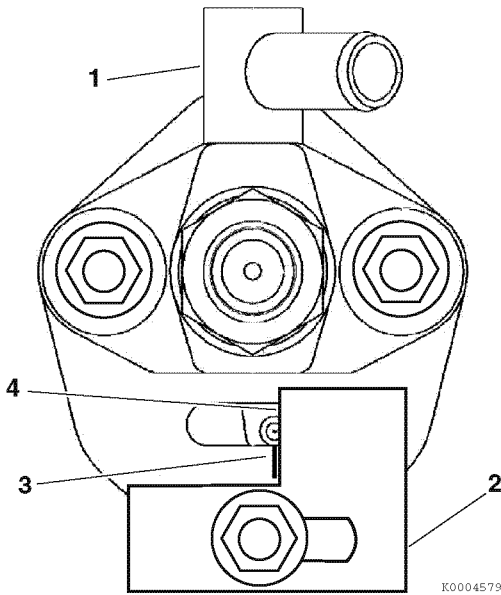

Figure 7-21
2. Install the fuel adjustment jig (2, **Figure 7-21**), YANMAR P/N 114771-92310, in the fuel injection pump inspection window. Using the inspection window cover plate nut, fasten the fuel adjustment jig aligning the upper left edge of the jig (4, **Figure 7-21**) to the alignment mark scribed on the face of the fuel injection pump (1, **Figure 7-21**) base plate (3, **Figure 7-21**).
- Be sure to keep the fuel adjustment jig parallel to the inspection window opening. (**Figure 7-21** shows the alignment mark for clarity only. The edge of the jig should be directly on the mark when installed properly.)